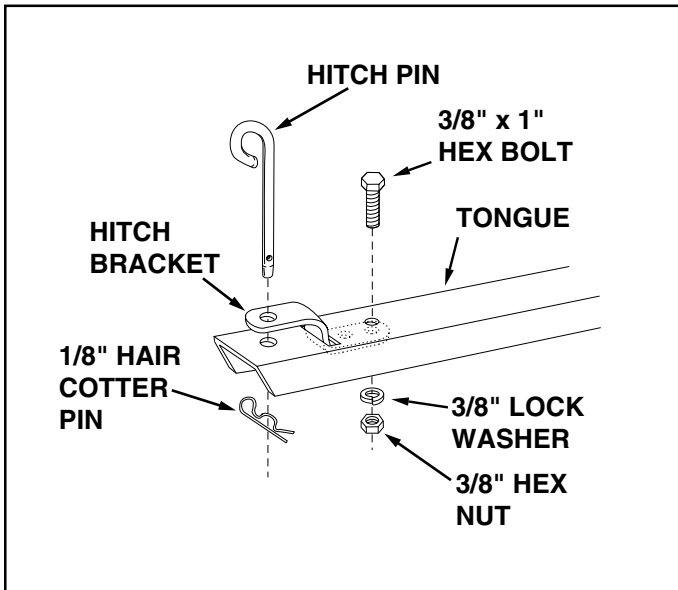

FIGURE 13
20. Assemble the end of the hitch bracket (two holes) down through the slot at the front of the drawbar tongue. Fasten it to the tongue using the 3/8" x 1" hex bolt, 3/8" lock washer and 3/8" hex nut. **Tighten.** See figure 13.
21. Assemble the hitch pin through the hitch bracket and the tongue and secure with the 1/8" hair cotter pin. See figure 13.